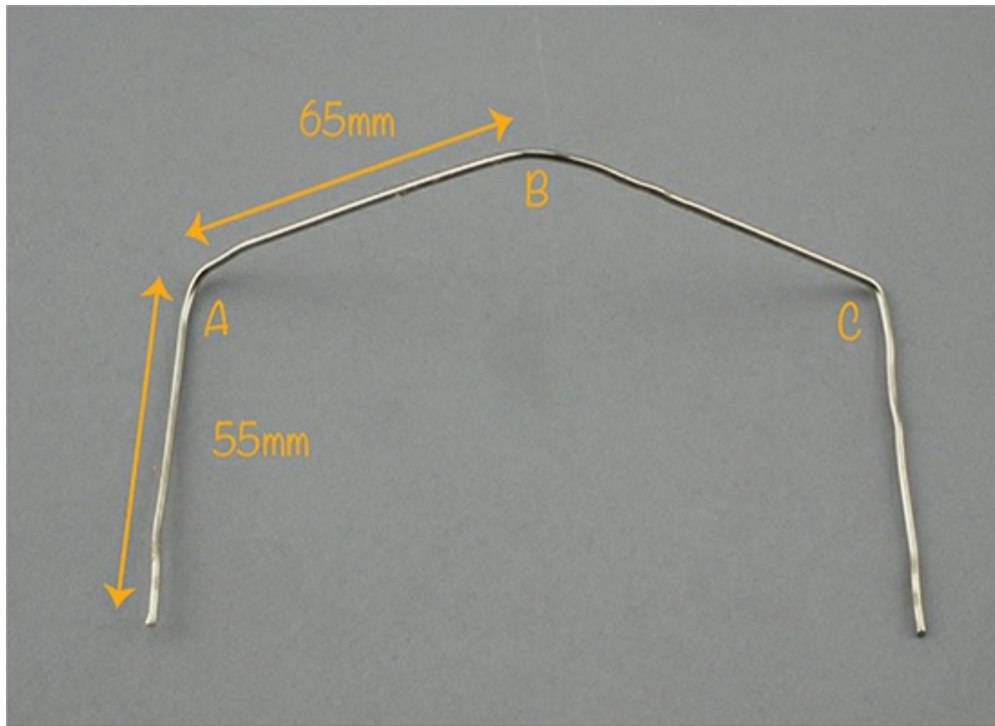

Figure 6-8: Where to bend the paper clip to make the eye frame
4. Make a frame for the eyeballs. Start by completely straightening out a paper clip. Then make the three bends labeled A, B, and C in Figure 6-8.